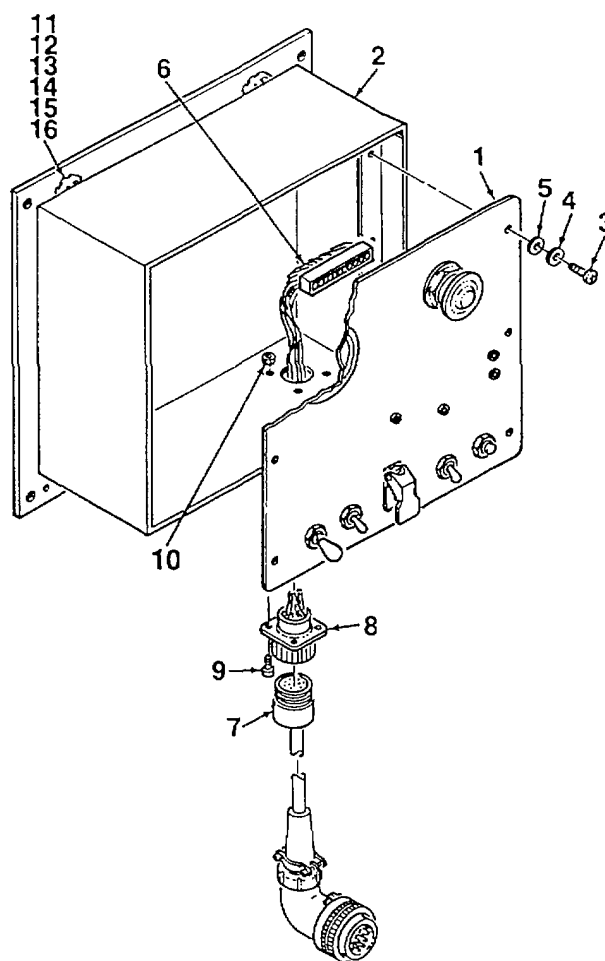

Figure 4-19. Remote Control Cable
1. Remove front panel (1, Figure 4-19) from remote housing (2) by removing six screws (3), lockwashers (4), and washers (5).
2. Disconnect remote cable electrical connector (6) from circuit board assembly.
3. Disconnect remote receptacle (7) from electrical plug (8).
4. Remove electrical plug (8) from remote housing (2) by removing four screws (9) and locknuts (10). Feed electrical connector and wire through hole in bottom of housing.
5. Remove vehicle mounting plate (11) from remote housing (2) by removing four locknuts (12), screws (13), and washers (14, 15). Separate halves of rubber isolators (16).
1. Install halves of four rubber isolators (16, Figure 4-19) onto remote housing (2). Mate vehicle mounting plate (11) to housing and secure using four screws (13), washers (14, 15), and locknuts (12)
2. Feed electrical connector and wiring through hole in bottom of remote housing (2). Mate flanged plug (6) to housing and secure using four screws (9) and locknuts (10).
3. Connect remote receptacle (7) to plug (8).
4. Connect remote cable electrical connector (6) to circuit board assembly.
5. Mate front panel (1) to remote housing (2) and secure using six screws (3), lockwashers (4), and washers (5).